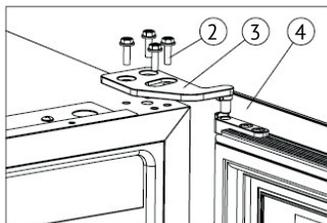

Figure 1
➔ Unscrew the M5*16 screws ②, dismantle the right upper hinge ③, and remove the door (Figure 1).